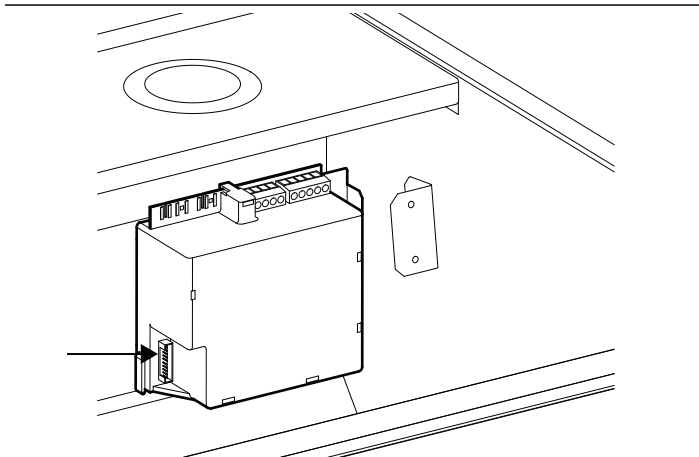

Figure 17: Relay Board Hookup
- a) Unplug harness from the remote control to the relay board (*Figure 17*).
- b) Plug in harness included in the remote kit (*Figure 17*).